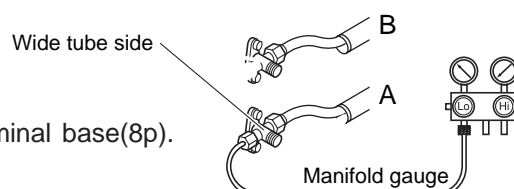

Fig. 23
- (2) Connect the manifold gauge to the charging port at the valve on the wide tube side of tube A. Purge the air from the charging hose. (Refer to Fig. 23.)
- (3) Perform heating operation and turn on pumpdown switch Y2 terminal base(8p). When the pressure at the low-pressure side is 0.15 – 0.2 MPa (0.5 – 1 kg/cm²G), fully close the spindle at the valve on the wide tube side A, and immediately stop operation. (Refer to Fig. 23.)